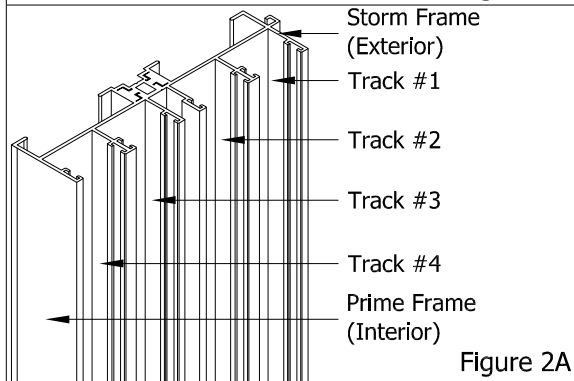
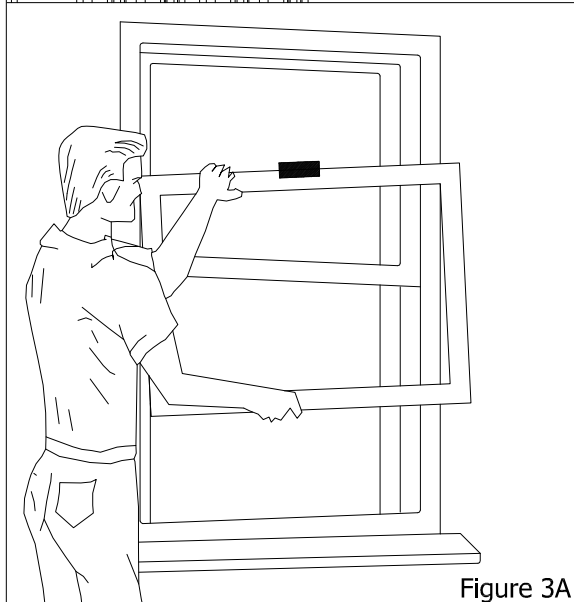

Figure 2A
Figure 3A
1. Grasp the sash at the top and bottom rails (Figure 3A) and insert the left side of the sash into track "#1" (Figure 2A) about an inch above the white nylon shoe at the bottom of the sash balancer. When the sash is positioned properly it will bottom out in the left track, and can be inserted into the right hand track.
5. Grasp the sash at the top and bottom rails and insert the left side of the sash into track "#2" (Figure 2A) about an inch above the white nylon shoe at the bottom sash balance. When the sash is positioned properly it will bottom out in the left track and be inserted into the right hand track.
9. Repeat the procedures for installing "Upper Storm Sash", inserting the sash into track "#3". (Figure 2A) Be sure to close the balance take-out clips before pushing top sash up into the closed and latched position.
10. Repeat the procedures for installing "Lower Storm Sash", inserting the sash into track "#4". (Figure 2A) Be sure to close the balance take-out clips after sash is pulled down into the closed and latched position.
4. Grasp the top of sash & bottom handle rails. (Figure 3A) Raise the weight of the sash off the balances and lift up an inch or two while pushing the sash to your left into the track until the sash bottoms out at the base of the track. At this point, the right side of the sash will be free of the frame. Pull the right side of the sash in toward yourself, and then out of the left track. The sash should now be free of the frame.